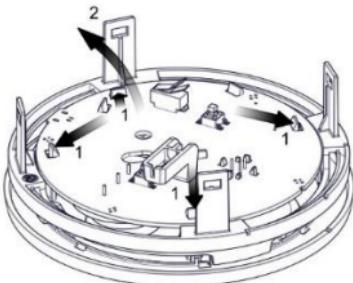

Figure 15
4. Disconnect the PCB from the holding tabs (see *Figure 15*).